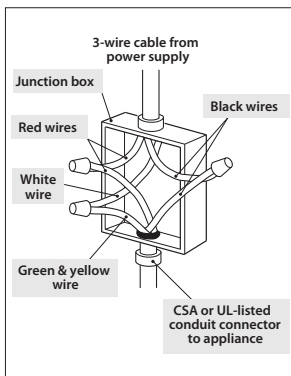

Fig. 3 Electrical connection to a three-wire electrical system
- 7a Connect the green cooktop cable wire to the neutral (white) wire in the junction box (Fig. 3).
- 7b Terminate the neutral (white) wire in the junction box (Fig. 3).